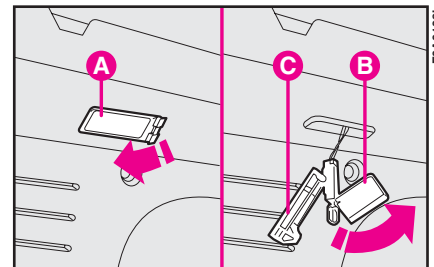

fig. 39
1) Remove the lens **A-fig. 39** as shown by the arrow.